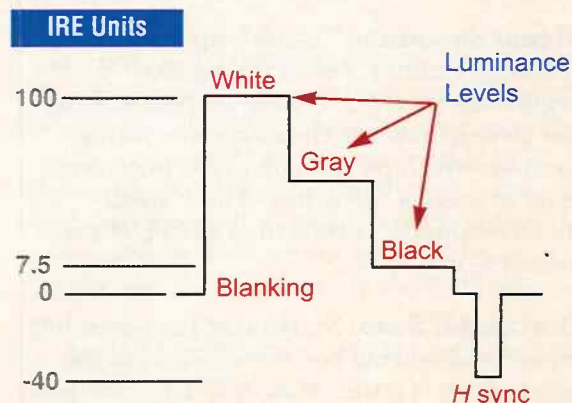

Fig. 7: The IRE scale provides a convenient method of measuring video, blanking, and sync levels.
**IRE Measurement Scale:** The Institute Of Radio Engineers (IRE) developed a more convenient video measurement scale, which is often used instead of millivolts. This measurement scale extends 100 IRE units up from blanking to peak white and 40 IRE units down from blanking to sync tips (Fig. 7). Black setup is 7.5 IRE units above the